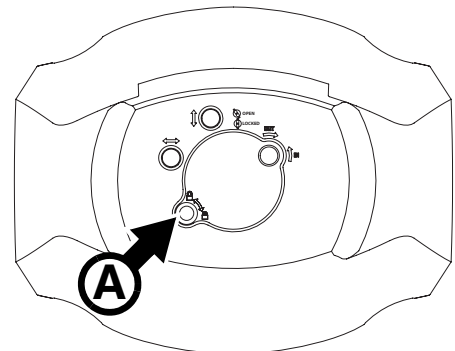

Figure 8: Lamp access
3. See Figure 8. Release the Torx 20 cover screw **A** and open the cover.